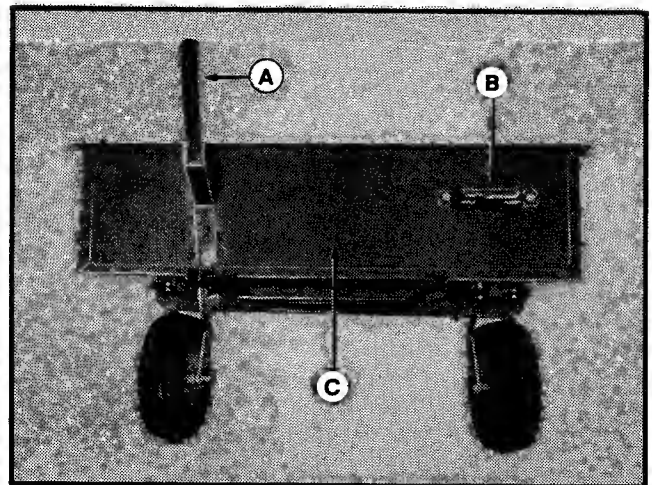

Figure 5
3. Install the latch handle (A, figure 5) and lift handle (B) on the outside of the box (C).